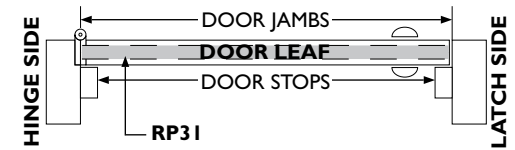

FIG.2
STEP 2 To prevent damage, remove rubber gasket from aluminium carrier before cutting. (FIG.2)